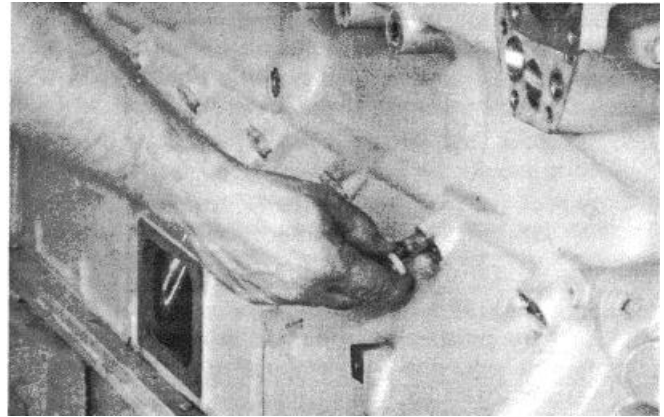
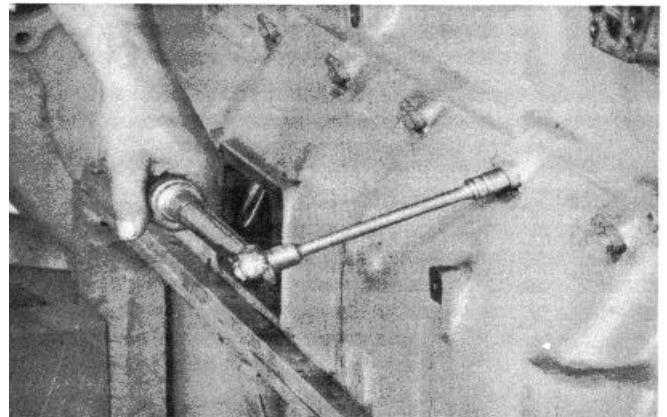

Fig. 14-77. Install The Piston Cooling Nozzles.
Fig. 14-78. Tighten The Screw For The Piston Cooling Nozzle.
2. Install the nozzles into the cylinder block, Fig. 14-77. Tighten the slotted head screw to 60 to 96 in.-lbs. [7 to 11 N•m] torque. Tighten the hex head screw to 100 to 140 in. lbs. [11 to 15.8 N•m] torque, Fig. 14-78.